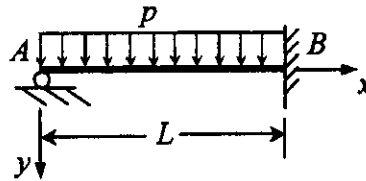

Figure 3
3. (25%) A uniform load of intensity p is acting on the beam of flexural rigidity EI as shown in Figure 3. By solving the beam equation, determine the equation of the deflection curve and the reactions at A and B for the beam. The beam equation is given as $EI \frac{d^4 y}{dx^4} = p$ or $EI \frac{d^2 y}{dx^2} = -M$. (Do NOT use the method of superposition)